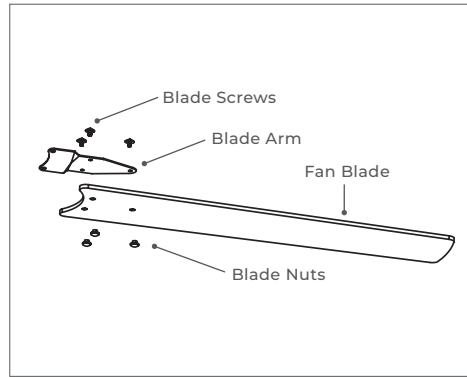

FIGURE 6
A) Align the screw holes in blade arm with fan blade. Locate blade screws and nuts. Fasten with 3 sets for each blade. Make sure the nuts are facing down and screws facing up. Repeat for the remaining blades. (Figure 6)